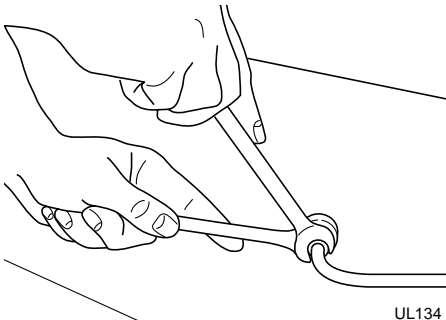

Figure 4
2. Locate the compression fitting and ferrule packed in the unit. Slide the compression fitting and ferrule over the 1/4 inch water supply line. Do not use thread sealing compound or tape. Using two wrenches, tighten the compression fitting on the supply line (see Figure 4).